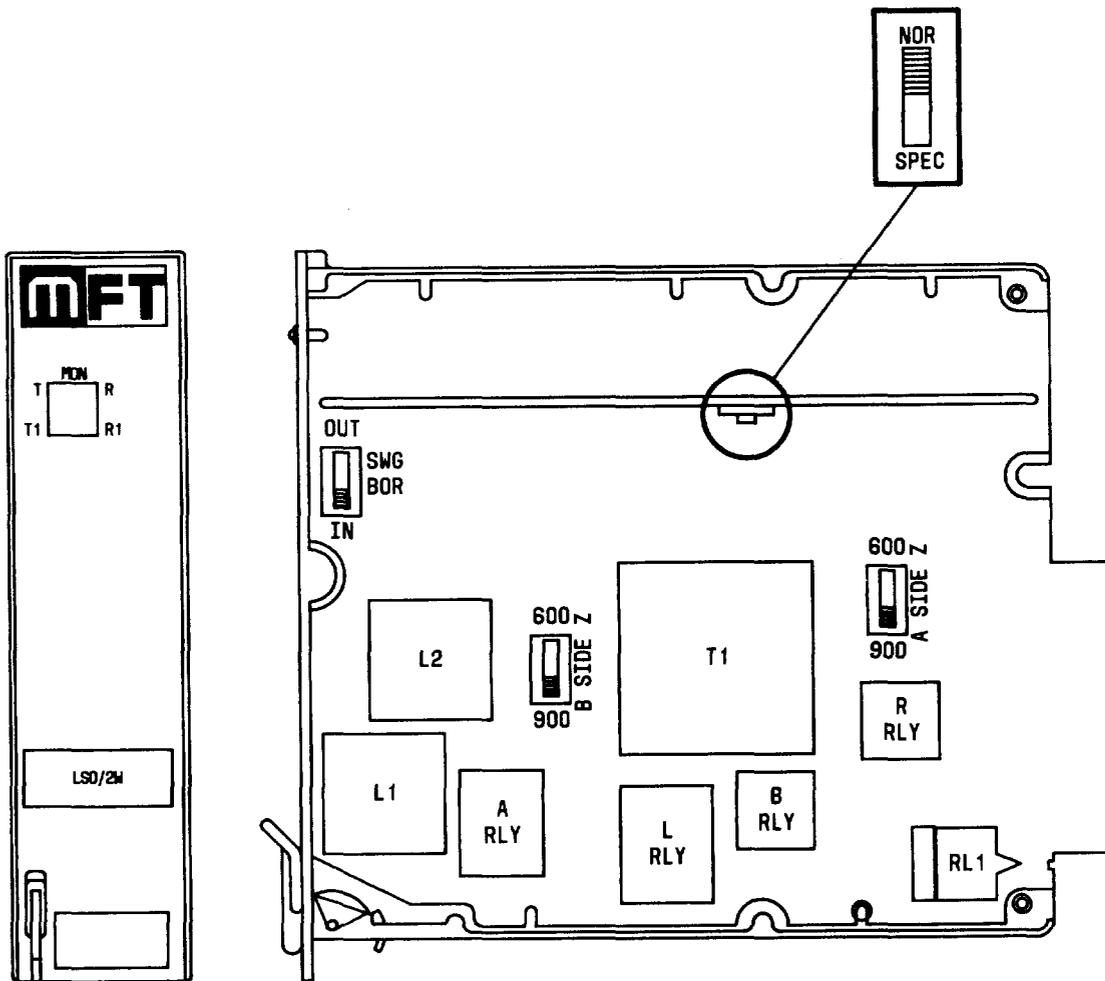
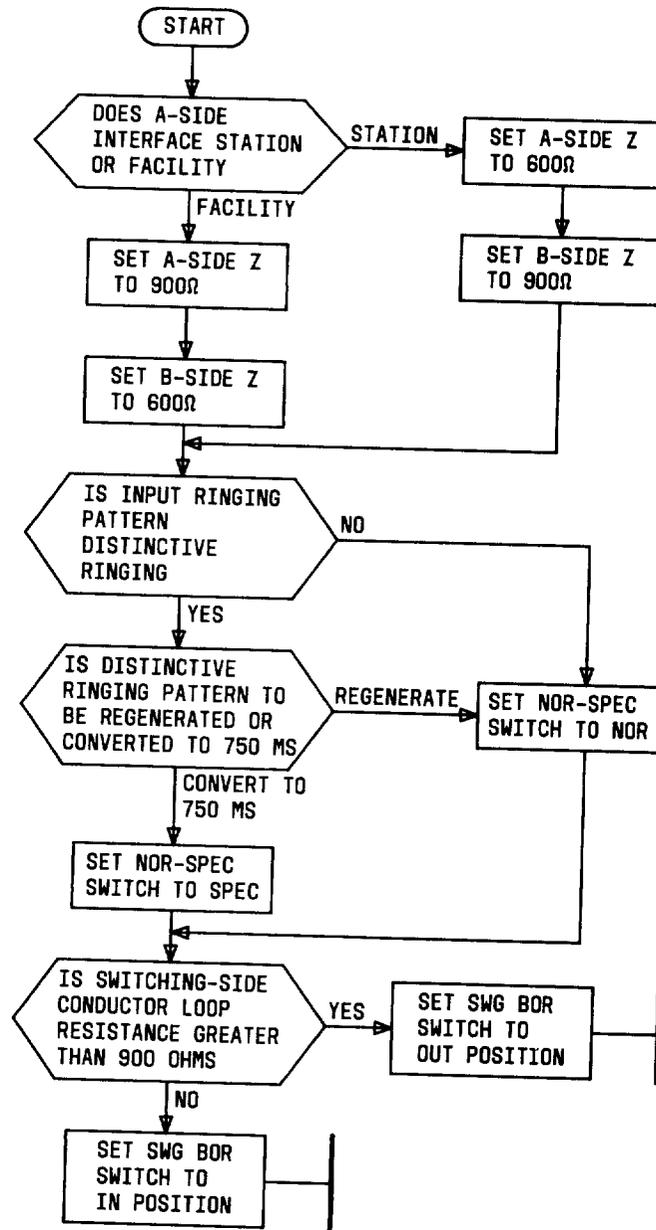

Fig. 1—Component Layout, J99343GA,L1
Fig. 2—Typical Initial Switching Setting Decision Process for J99343GA,L1
**2.01** The J99343GA, L1, shown in Fig. 1, provides the functions of a 2-wire passive transmission unit and a loop signaling repeater, loop-start only signaling unit on a single MFT plug-in. The CFUs can be used in either a single- or a double-module arrangement. They can be mounted in any slot of a single-module shelf or in the transmission slot of a double-module shelf. In double-module applications, the companion signaling unit slot must be vacant. Section 332-910-101 contains additional information on MFT mounting arrangements.
**2.02** Figure 1 shows the location of the individual switches. The initial settings are determined by circuit application and are to be provided by the local circuit layout organization. Figure 2 illustrates a typical decision process to aid in determining the initial switch settings of the unit. The following paragraphs provide a brief description of the individual switches.